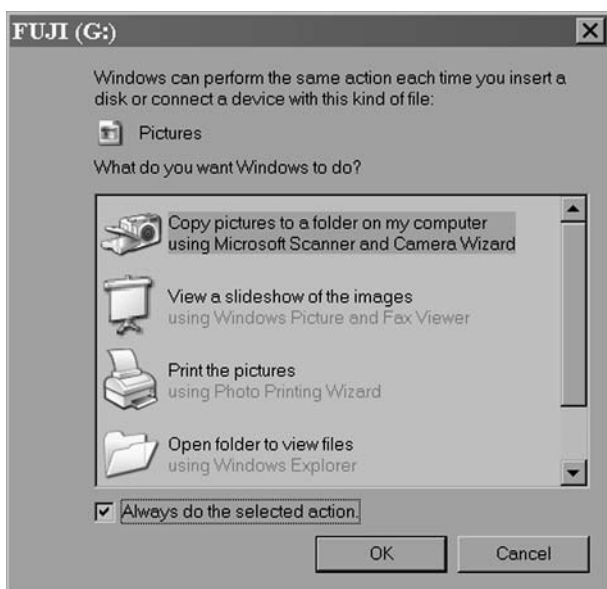

Figure 8.6 The Windows XP option menu that appears when a source of image data is plugged into a USB socket
- If you use Windows XP, you will find that Windows takes over, Figure 8.6, when you plug in the camera's data cable, allowing you to download the camera files and save them in your hard drive or print or edit as you wish, with a provision for deleting the files from the camera after downloading if you wish. If you are using Windows XP, do not install the downloading software that comes with the camera (in case of conflicts) unless you find that the Windows software is unsuitable for your camera.